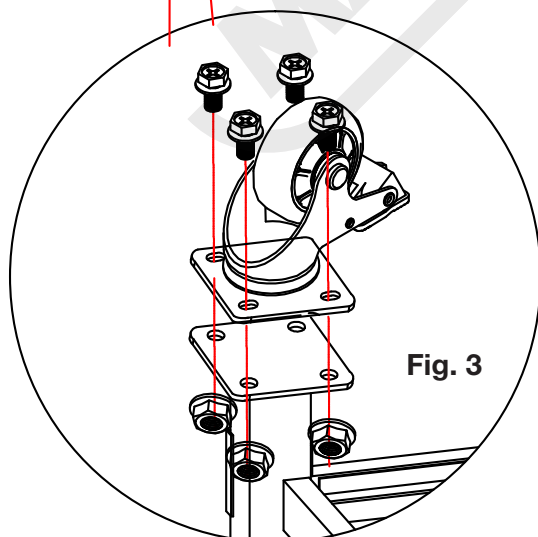

Fig. 3
Step 5: Install 2 swivel brake wheels (7) to left side and 2 fixed wheels (8) to right side on feet of legs (2) using short screws (5) and nuts (6). As shown in (Fig. 3).